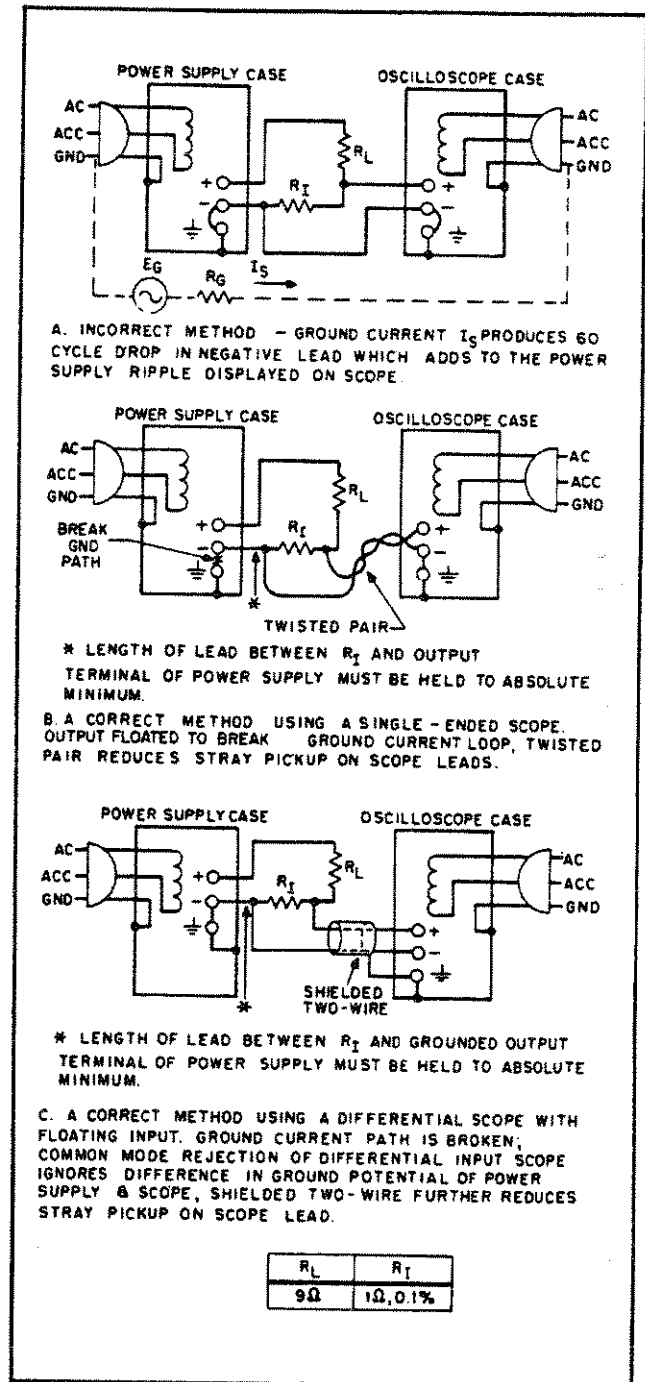

Figure 5-11. CC Ripple and Noise Test Setup
**5-50** Most of the instructions pertaining to the ground loop and pickup problems associated with constant voltage ripple and noise measurements also apply to the measurement of constant current ripple and noise. Figures 5-11 and 5-12 illustrate the most important precautions to be observed when measuring the ripple and noise of a constant current supply. The presence of a 120Hz waveform on the oscilloscope is normally indicative of a correct measurement method. A waveshape having 60Hz as its fundamental component is typically associated with an incorrect measurement setup.